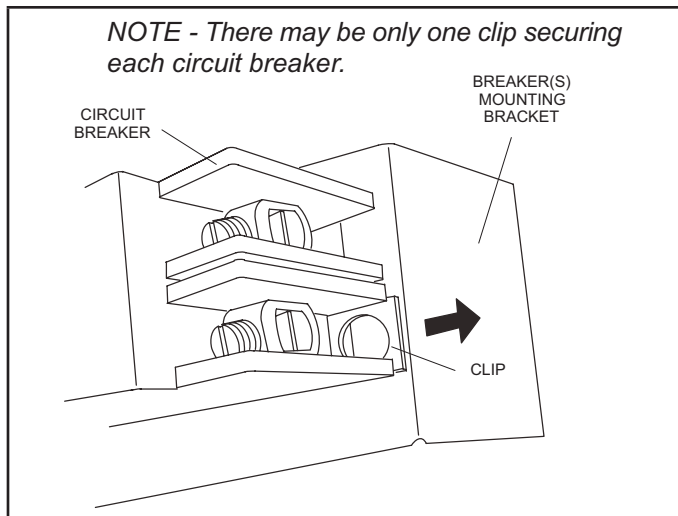

FIGURE 6. Circuit Breaker Clip
- 1 - Locate the one clip located on the right side (see arrow) of each breaker (see figure 6). The clip secures the circuit breaker to the mounting bracket. Pull the clip to release the breaker from the mounting bracket and rotate the breaker to the proper position.